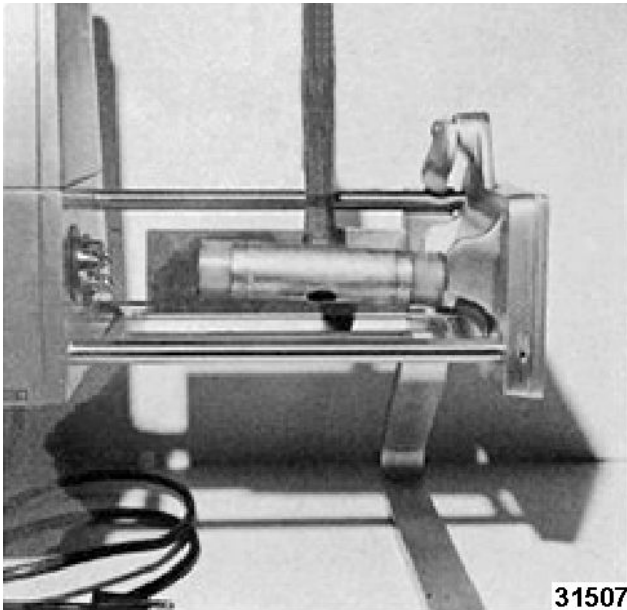

Fig. 7
5. Tap the support assembly at the base of each tie rod to remove (Fig. 7). (Tap on the edges of the support assembly to avoid damaging the aluminum cover plate).